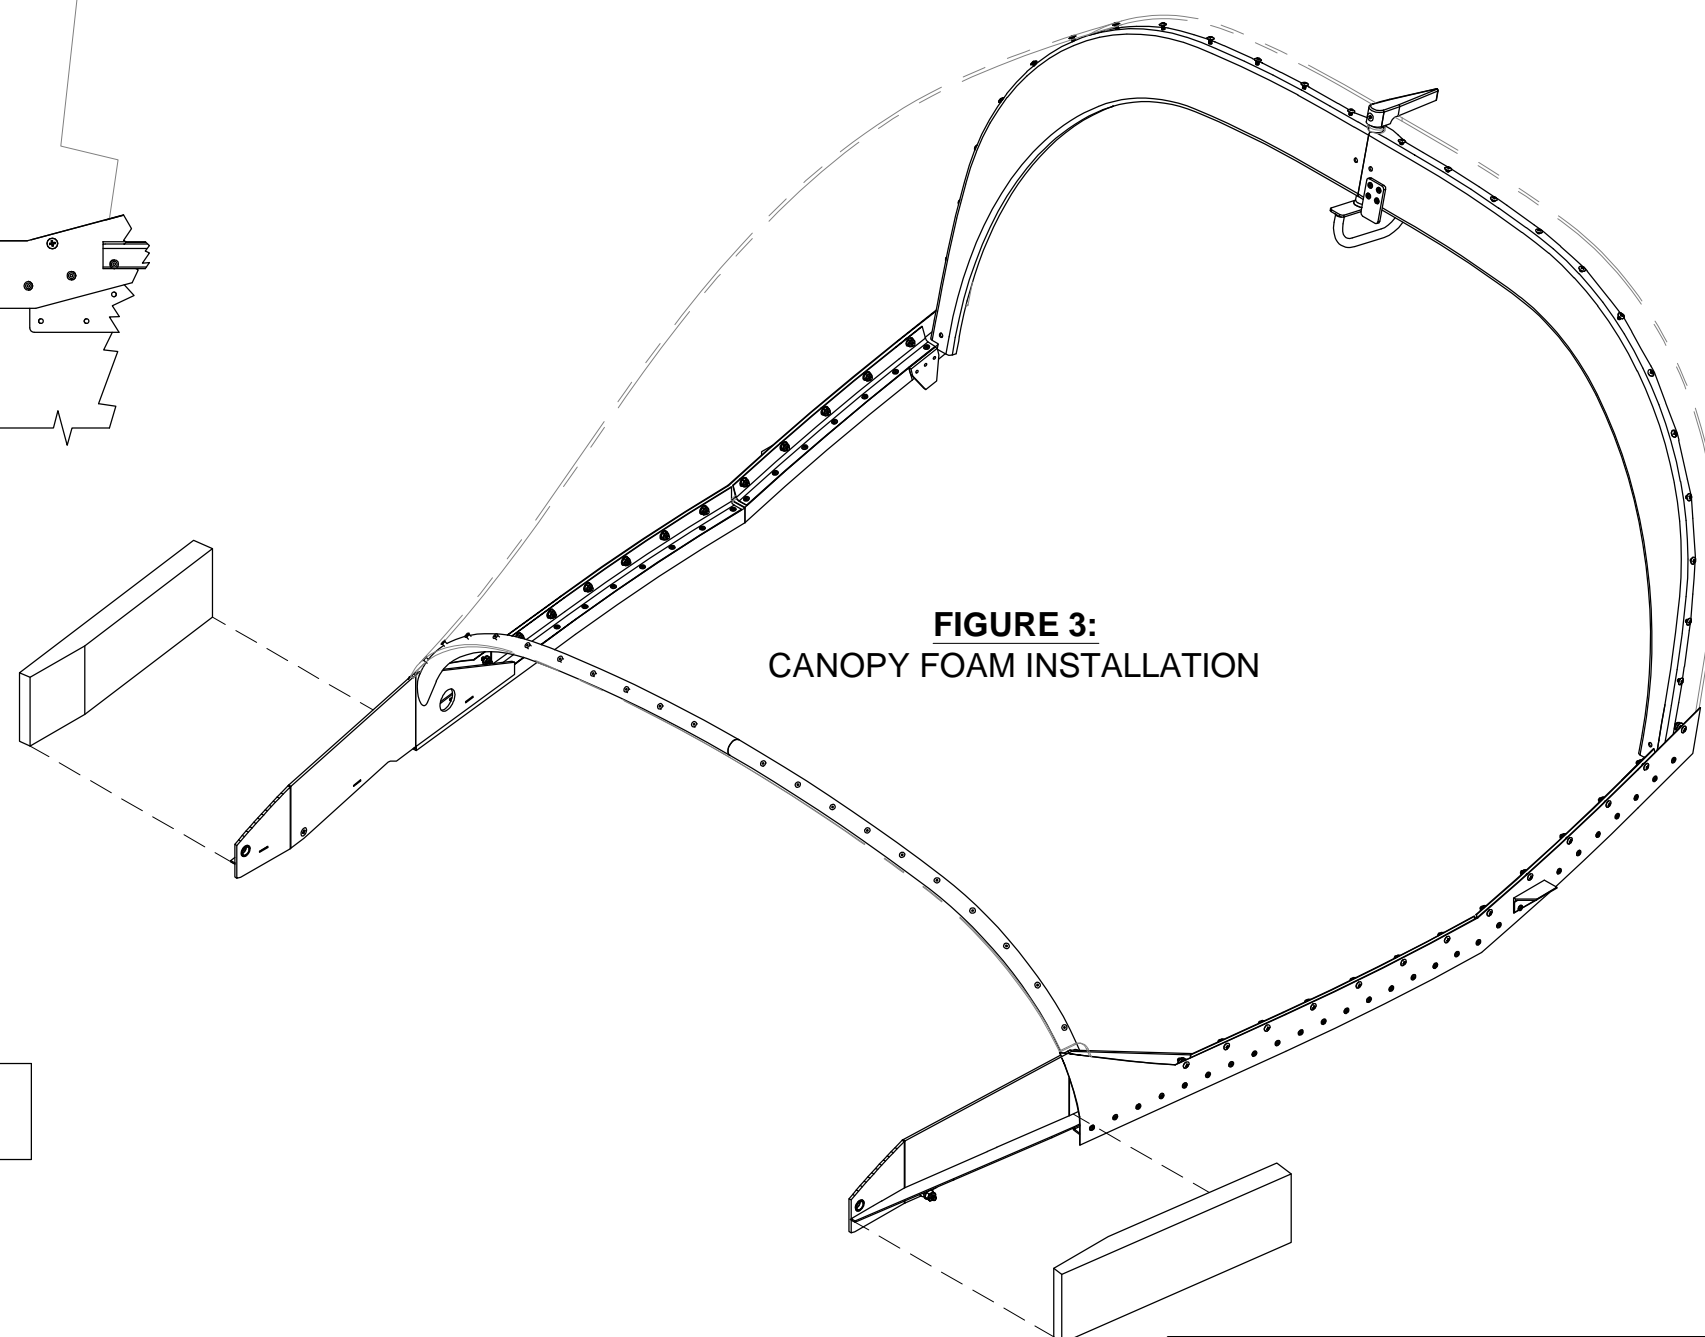

FIGURE 3:
Step 4: Position the trimmed C-1208 Canopy Foam in place on the WD-1219 Canopy Frame as shown in Figure 3.